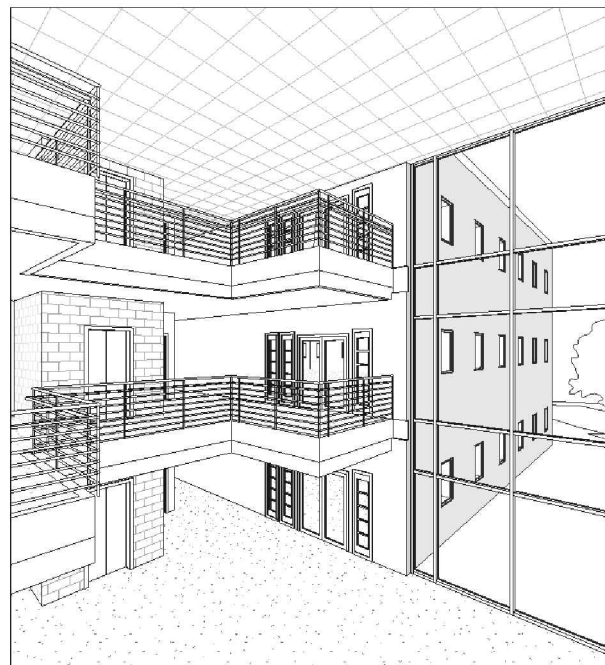

FIGURE 13-4.3 Modified interior camera
- Using the **Crop Region** rectangle, modify the view to look like **Figure 13-4.3**.